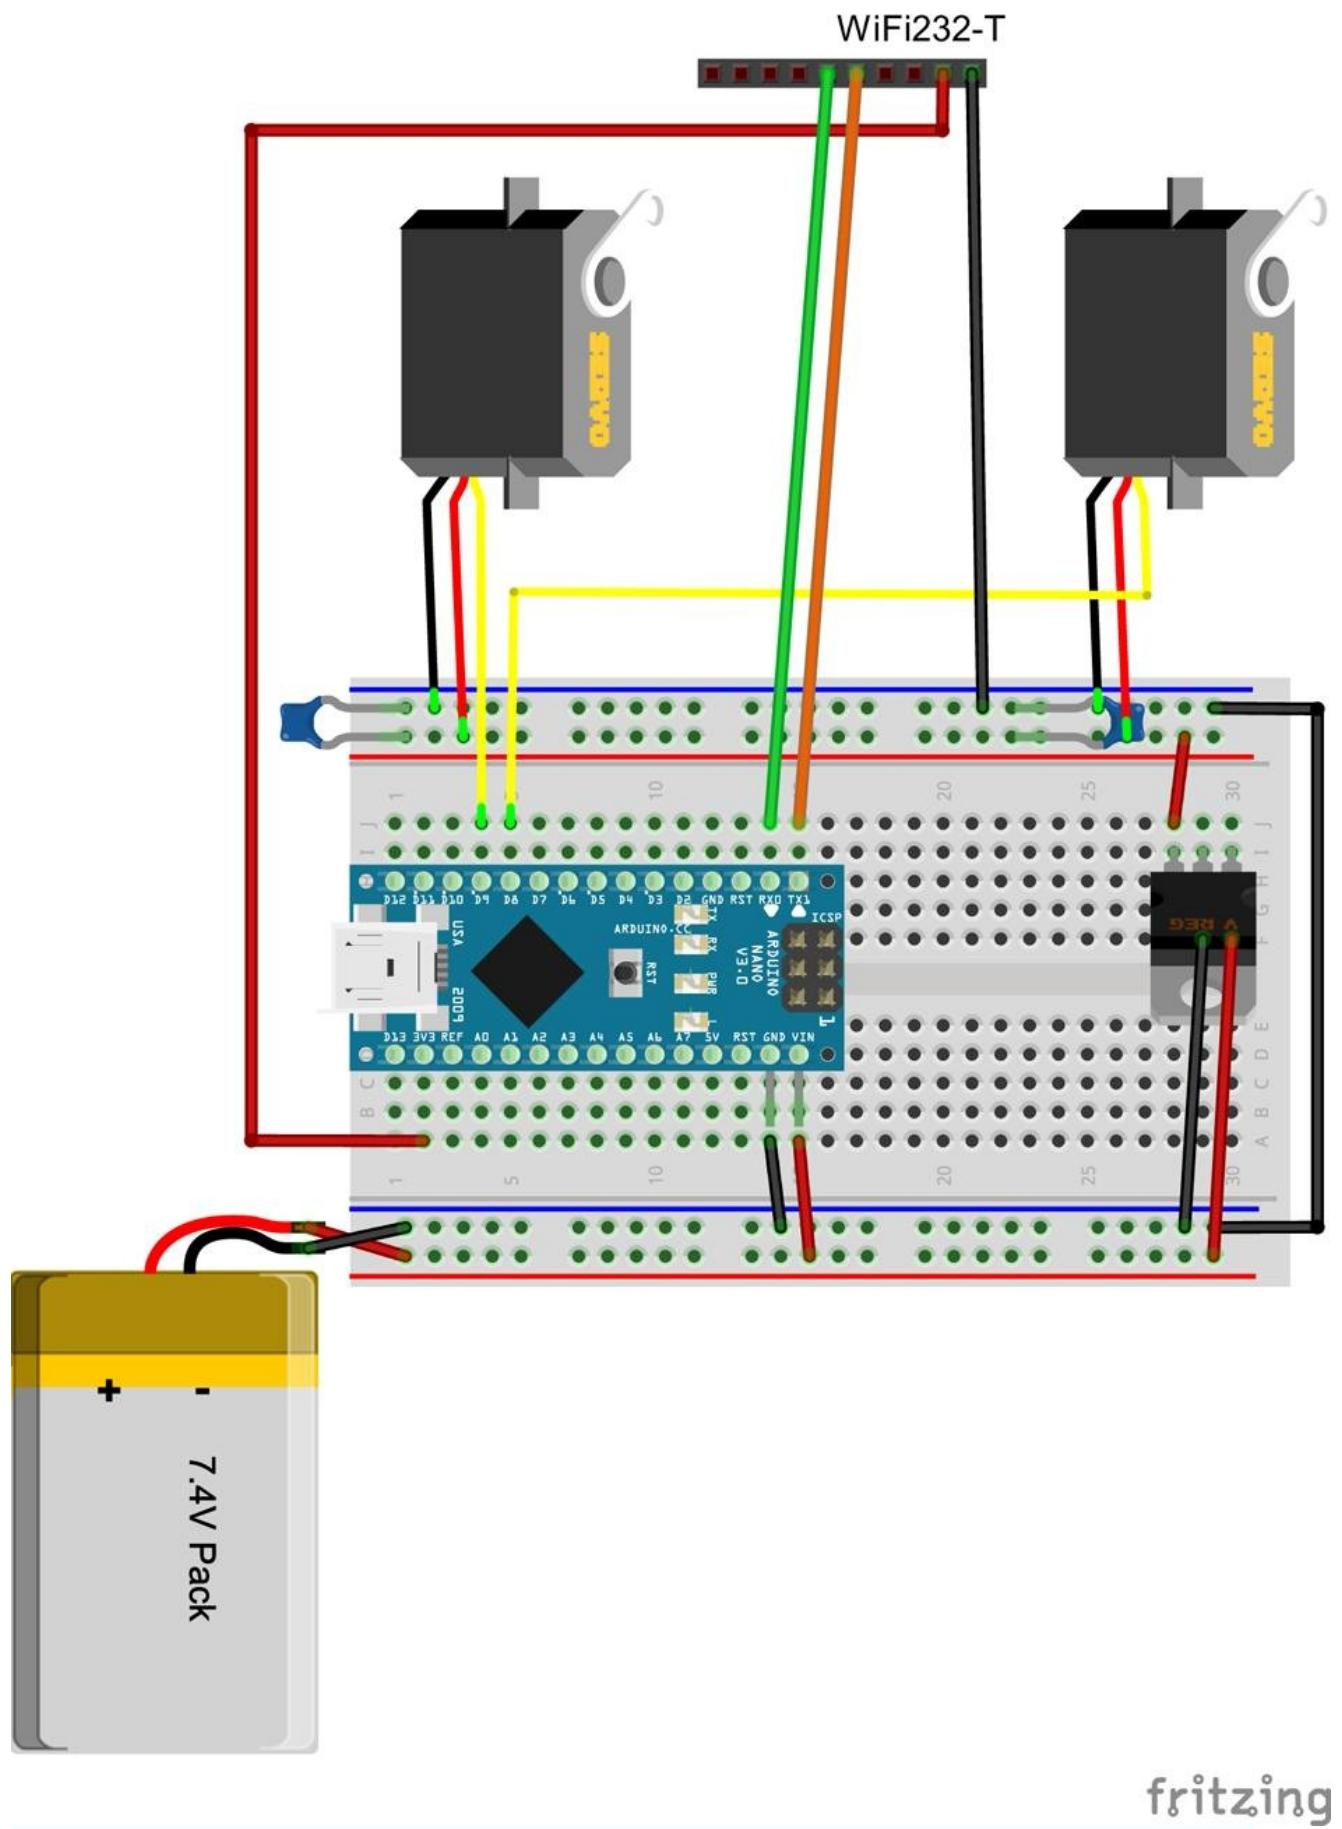

Figure 1-9. WiFi wiring diagram
1. The first thing to do is add decoupling capacitors to the Arduino ground and VIN, as this will be powered from battery. Also add capacitors to the power and ground for each of the servos, as shown in Figure 1-9.